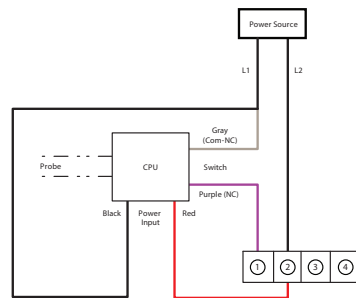

Figure 3: Wiring Option 2*: Interfering Power Line
6. Wiring Option 2*: Interfering Power Line (Figure 3)
- Cut power wire of the indoor unit. Wire "COM-NC" and "NC" wires as shown in Figure 3. Insulate the "COM-NO" and "NO" wire using insulating tape.